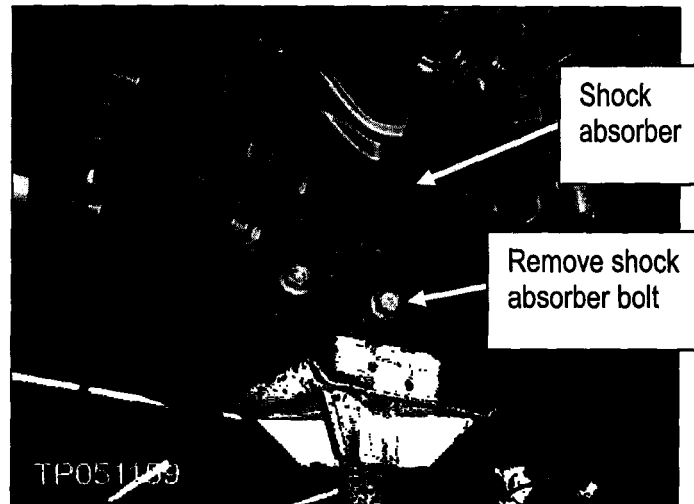

Figure 28
23. Now place a support jack under the front lower link and disconnect the shock absorber from the link (see Figure 28).